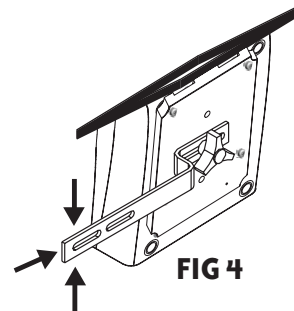

FIG 4
5. To manually determine a mounting location, assemble mount to control unit using knob and one of the three holes in the mounting plate, see FIG 4. Allow knob to remain loose so control unit is free to rotate.
6. Position control unit in desired location. Press mount flush against mounting surface. With a pencil, mark the underside of mounting surface at three edges, see FIG 4.